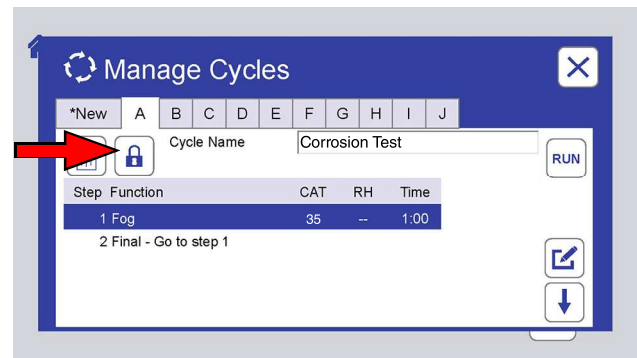

Figure 9.6.3a: Touch the Lock icon to lock the cycle. **NOTE:** Pre-programmed test cycles are locked by Q-Lab.
- o Lock a cycle to prevent unauthorized changes (Figure 9.6.3a through Figure 9.6.3e).